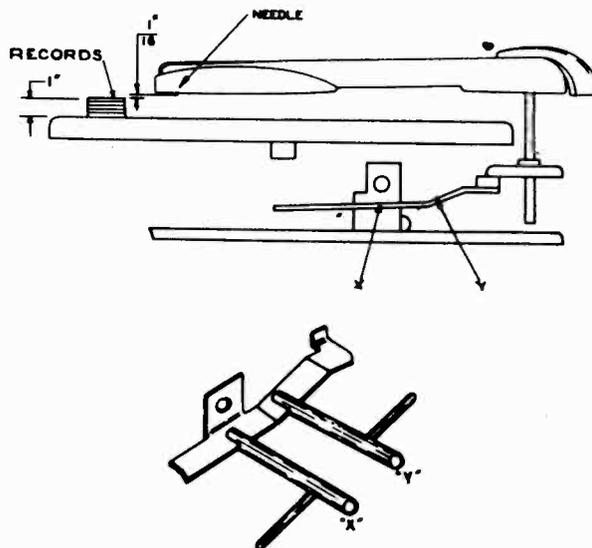

Fig. 4
The vertical movement of the pickup arm is controlled by the angle of the Pickup Arm Raising Lever (40), Fig. 4. The needle should approach the top record of a full stack of 10" records on the turntable with approximately  $\frac{1}{8}$ " clearance. To adjust:
3. Be sure the notch in the Pickup Arm raising disc (34) engages the pickup arm raising lever (40).
4. If the needle does not clear the top record or if it raises too high, adjust by bending the pickup arm raising lever at the point indicated in Fig. 4.